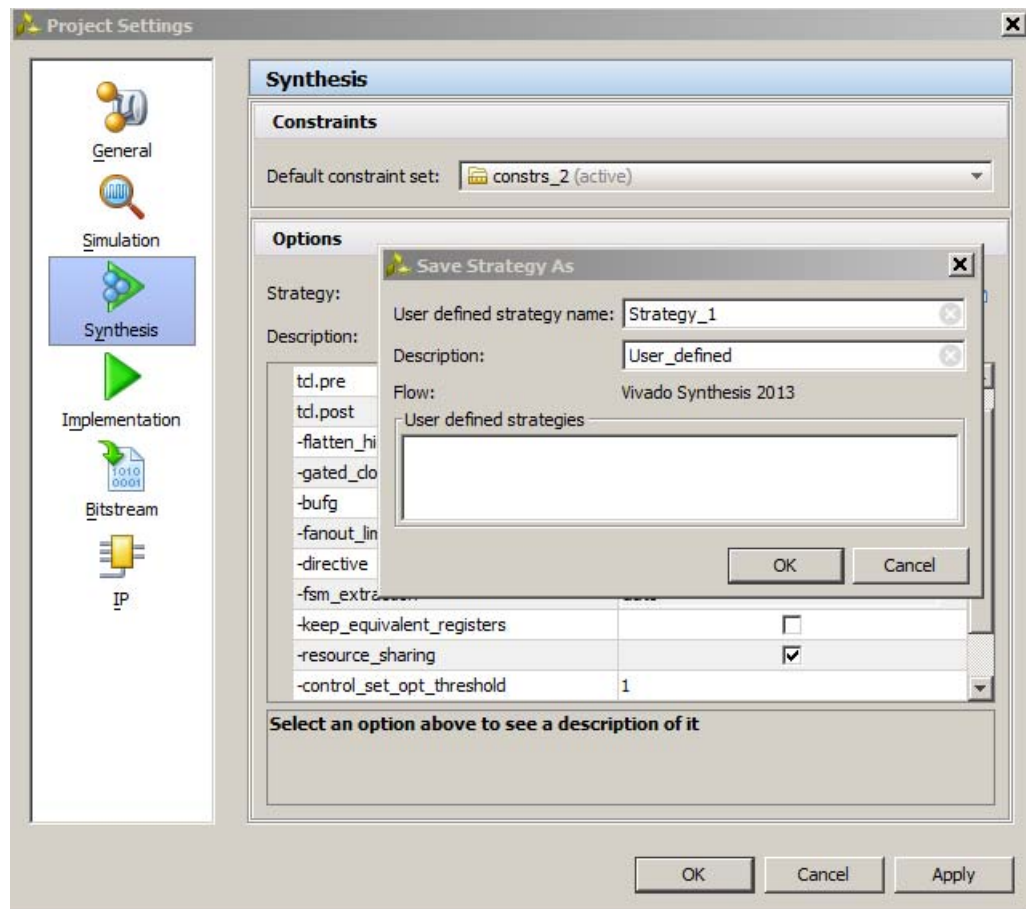

Figure 3: New Strategy Dialog Box
You can also define your own strategy. When you select a synthesis strategy, available Vivado strategy displays in the dialog box. You can override synthesis strategy settings by changing the option values. See Figure 3, page 12.
- Click the **Create New Strategy** button  under the flow options to open the New Strategy dialog box, as shown in Figure 3.